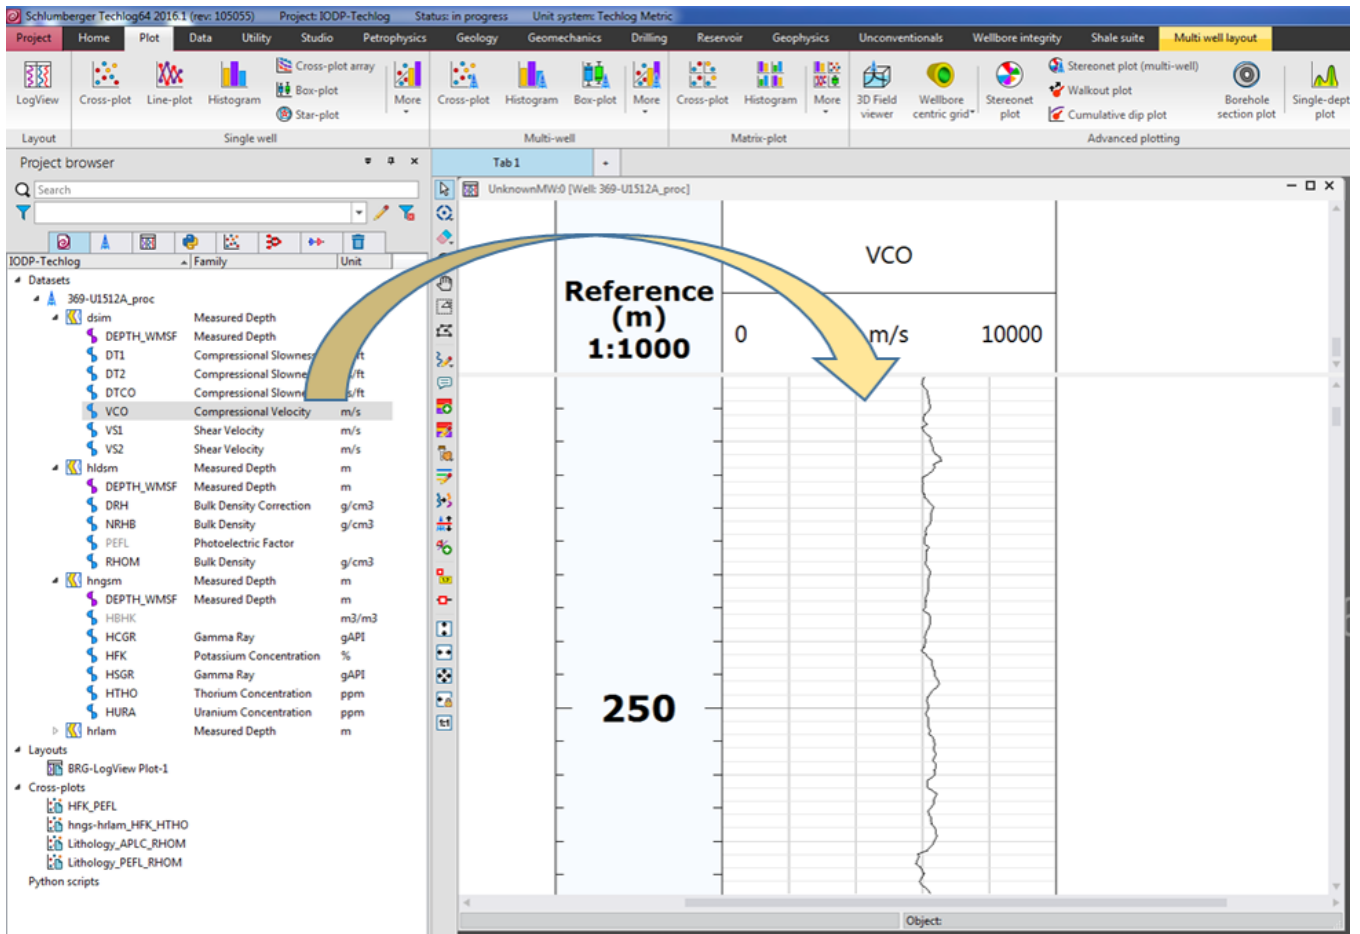

Figure 16. Plot menu toolbar and new LogView plot with a reference (Depth) and variable (VCO) track added.
1. In the Plot menu toolbar, click the LogView button (Fig. 16). A new Log View window will appear in the Display area,
1. To expand the window of the Log View Plot, click on the maximize (square icon) button on the upper right corner of the window (Fig. 16)